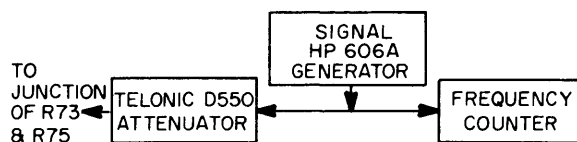

Figure 5-8. Translator Z112, Test Setup
(1) Remove rf output Z115 from Exciter. Set all frequency selector switches to blank position. Remove step generator Z113 from Exciter, and set EXCITER switch to PTT position.
(2) Connect test equipment as shown in figure 5-8. Connect signal generator between junction